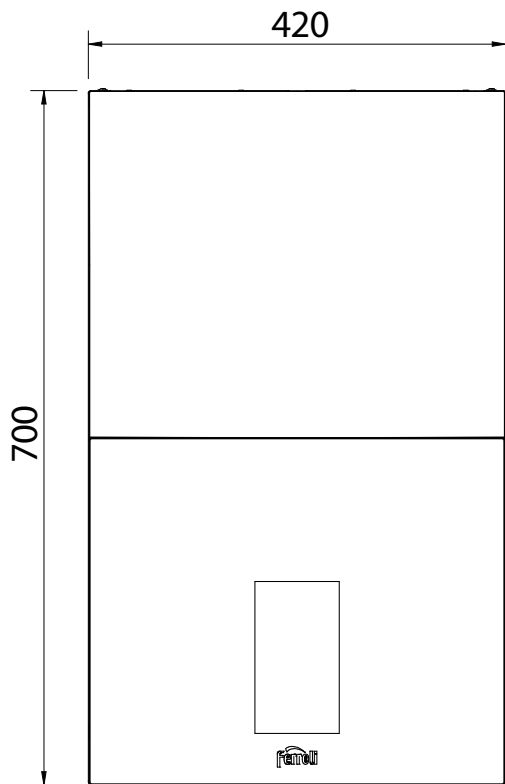

fig. 35- Front view
- 2 - Touching the main menu icon and then [Boiler Reset] when a screen similar to that shown in fig. 35 (main menu icon with red dot) appears.